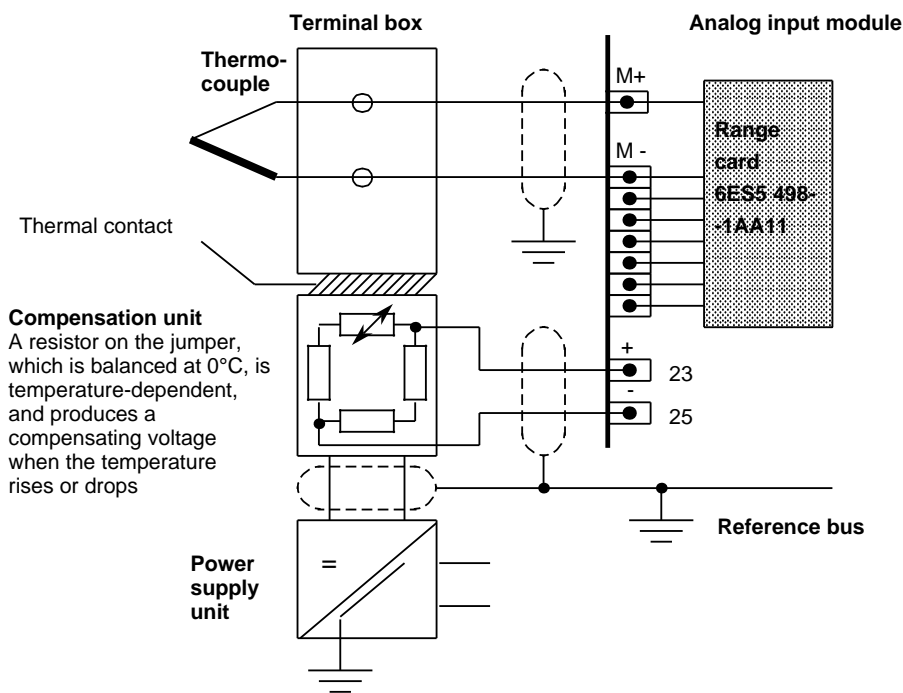

Figure 7-5. Connecting Thermocouples
- Apply compensating voltage to pins 23 and 25 (KOMP + and KOMP -) on the analog input module (Figure 7-5)